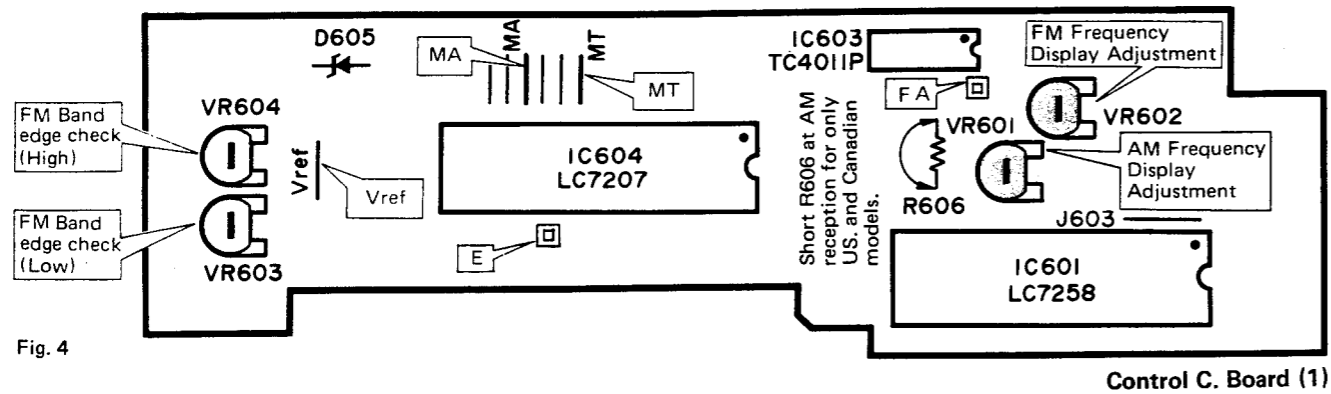

Fig. 4
* Use the dummy antenna shown in Fig. 4. (Do not connect the loop antenna.)